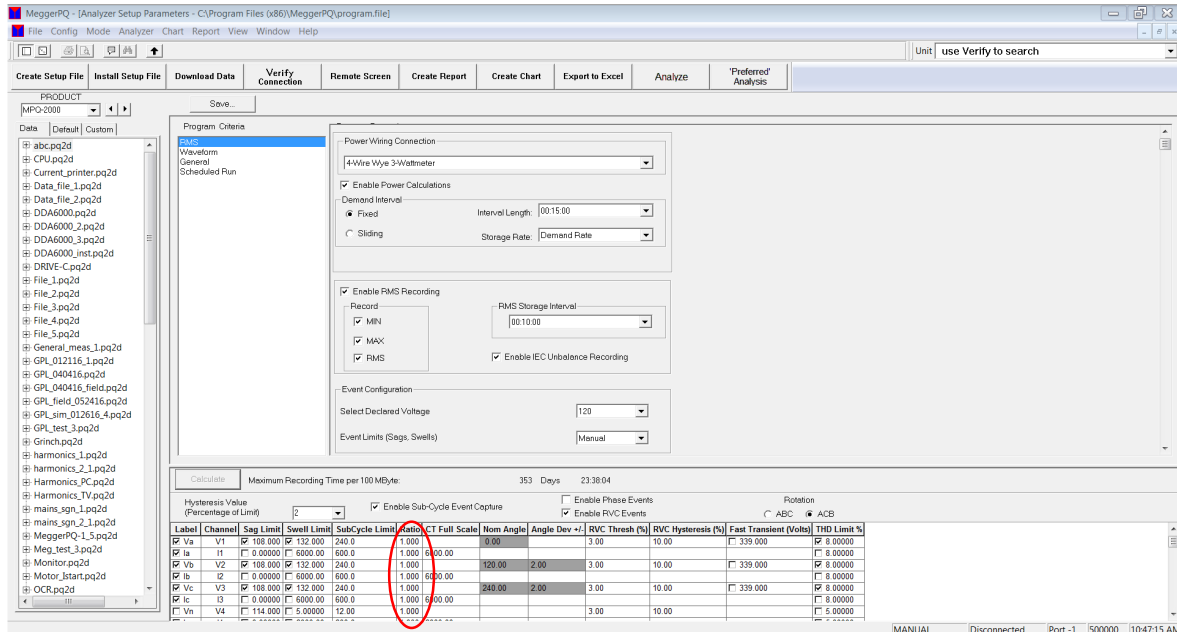

Figure 1: MeggerPQ software - Advanced Test Setup screen
1. When creating an advanced setup file, go to the column circled in Figure 1.
2. Click on the cells corresponding to the current channels and change the values to the ratio of the CTs, the secondary circuits of which you're measuring the current on. For example, if you're measuring current on the secondary circuit of a 600:5 CT, you'll enter a ratio of 120 for current in the column circled in Figure 1.